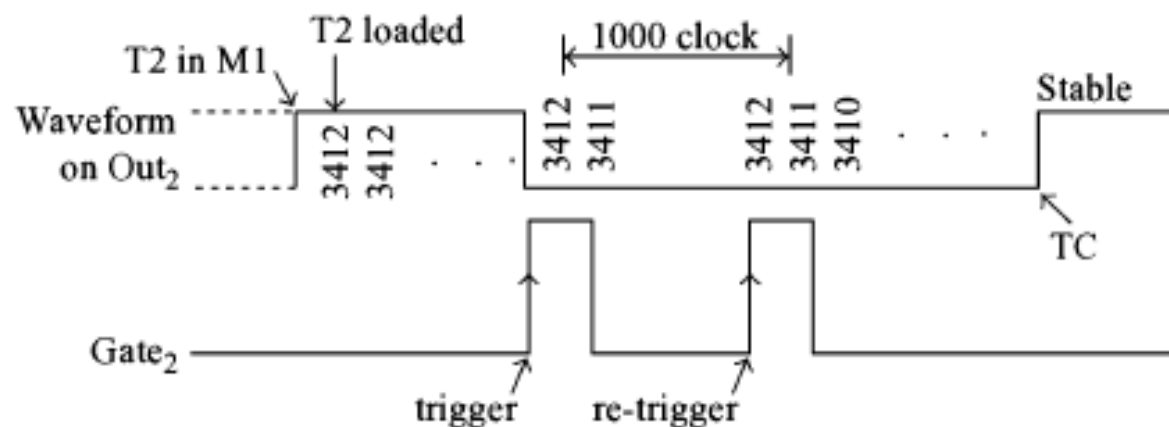

Fig. 25.9
- Figure 25.9 provides the **output waveform** when the gate input provides another **trigger pulse** when the count down has reached a value of 2412.